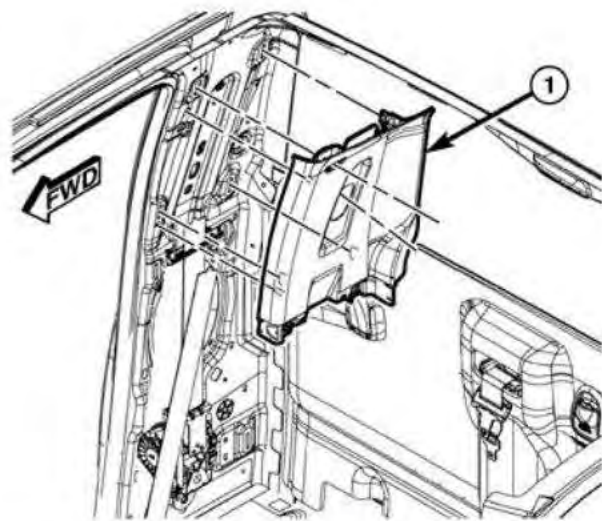

Figure 30 – C-Pillar Upper Trim Panel
25. Release the retaining clips and remove the C-pillar upper trim panel (1) (Figure 30).
54. Position the upper trim (1) to the C-pillar then engage the retaining clips (Figure 30).